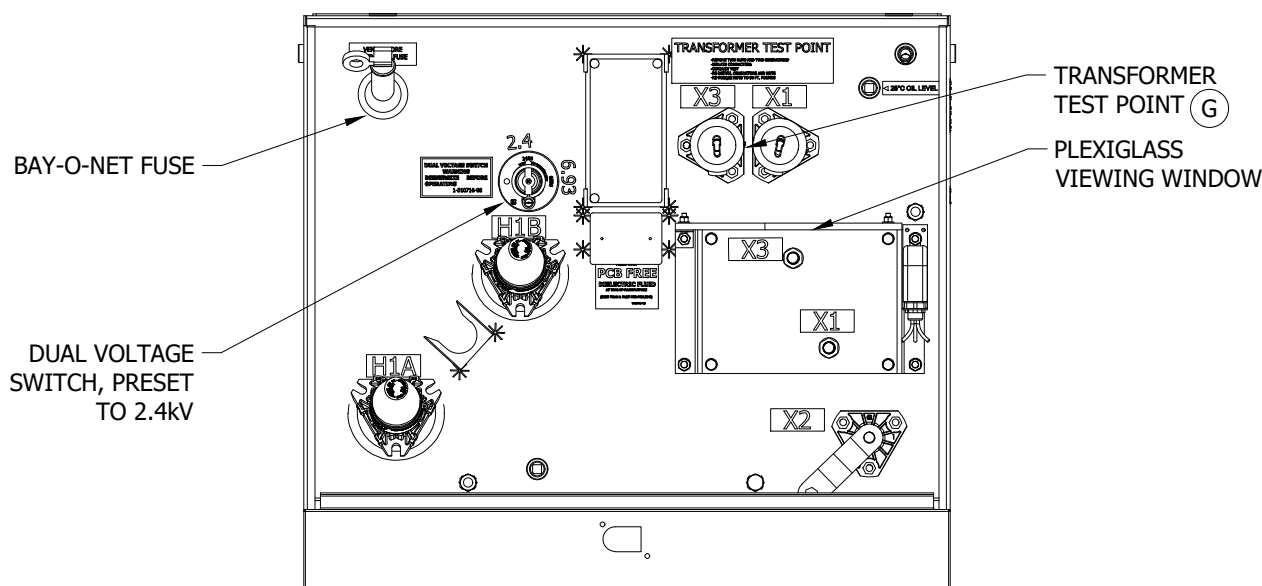

FIGURE 6 (F) (G)
(G) TO PERFORM TRANSFORMER PRE-TEST, DISCONNECT AND ISOLATE X3/X1 CONDUCTORS SHOWN IN FIGURE 6. PERFORM TEST, THEN RE-INSTALL X3/X1 CONDUCTORS, AND TORQUE TO 50 FT. LBS. DO NOT OVER/UNDER TIGHTEN.